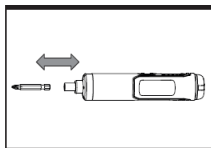

Fig.B1
B) INSTALLARE E RIMUOVERE LA PUNTA (VEDI LA FIG. B1, B2)